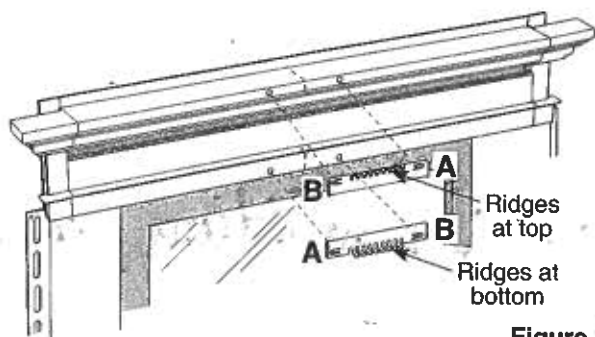

Figure 12
11. Install clips by placing end "A" of clip in first and then snapping in end "B" (Figure 12). Once clip is snapped in, slide clip back 1/16" to ensure clamping legs are fully locked into place.